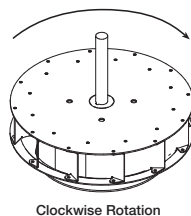

Figure 6
5. Check wheel rotation (viewing from the shaft side) by momentarily energizing the unit. Rotation should be clockwise and correspond to the rotation decal on the unit, see Figure 6.
3. Start the fan and shut it off immediately to check rotation of the wheel with directional arrow in the motor compartment, see Figure 6.